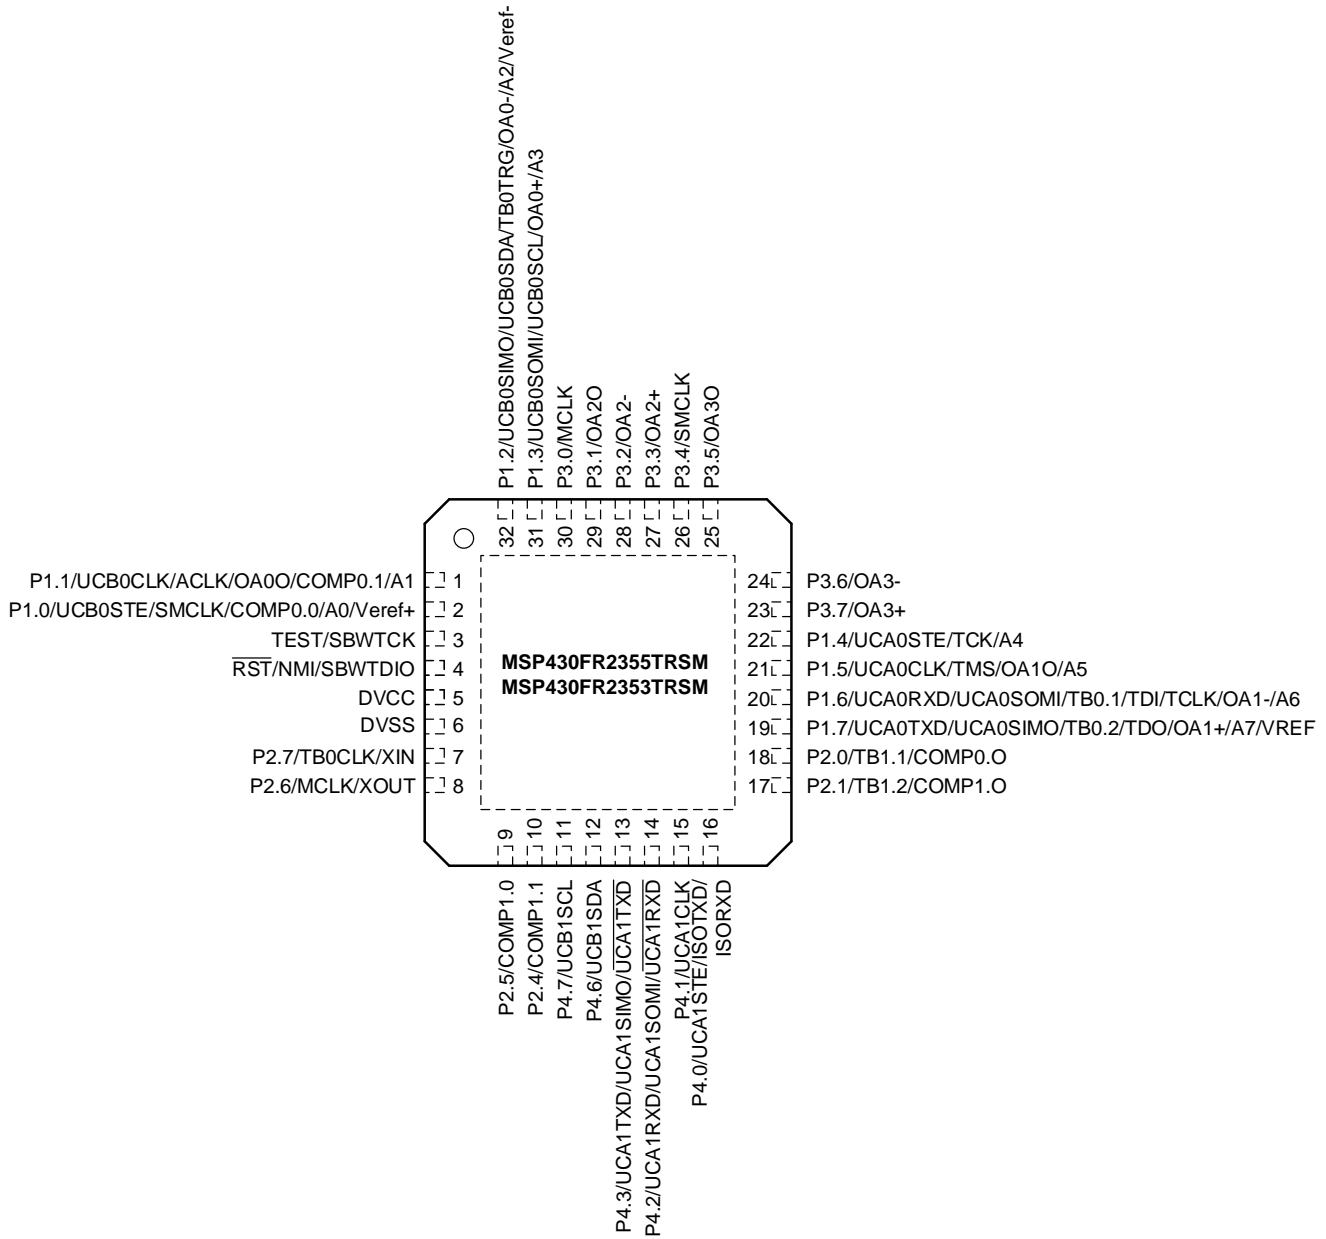

图 4-4. 32-Pin RSM (VQFN) (Top View) – MSP430FR235x
• Added 图 4-4, 32-Pin RSM (VQFN) (Top View) – MSP430FR235x .....	11
图 4-4 shows the pinout of the 32-pin RSM package for the MSP430FR235x MCUs.